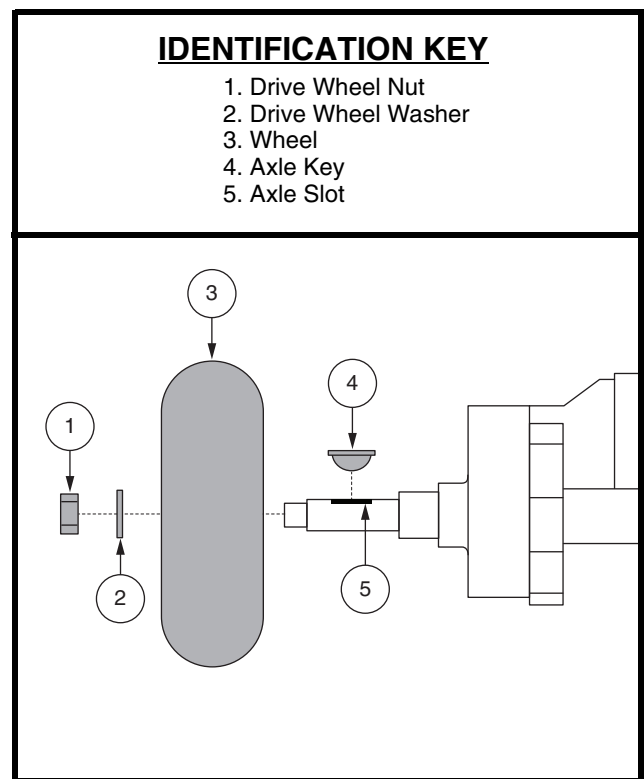

Figure 18. Wheel Replacement
3. Remove the drive wheel nut and washer from the axle. **See figure 18.**